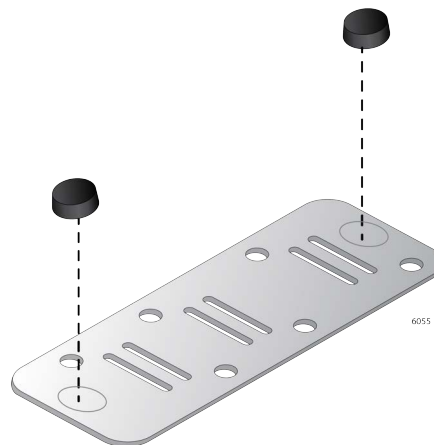

Figure 26. Attaching the Bumper Feet to the STND-J03 Brackets
6. Attach two bumper feet to the bottom of each bracket. Refer to Figure 26.